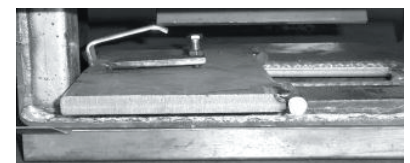

Fig. 15
5. Working down through the flue collar, unhinge the bypass door from the bypass rod (rotating the bypass handle into a neutral position will help), then rotate the bypass door 90 degrees to remove through the combustor opening (**Fig. 15**).